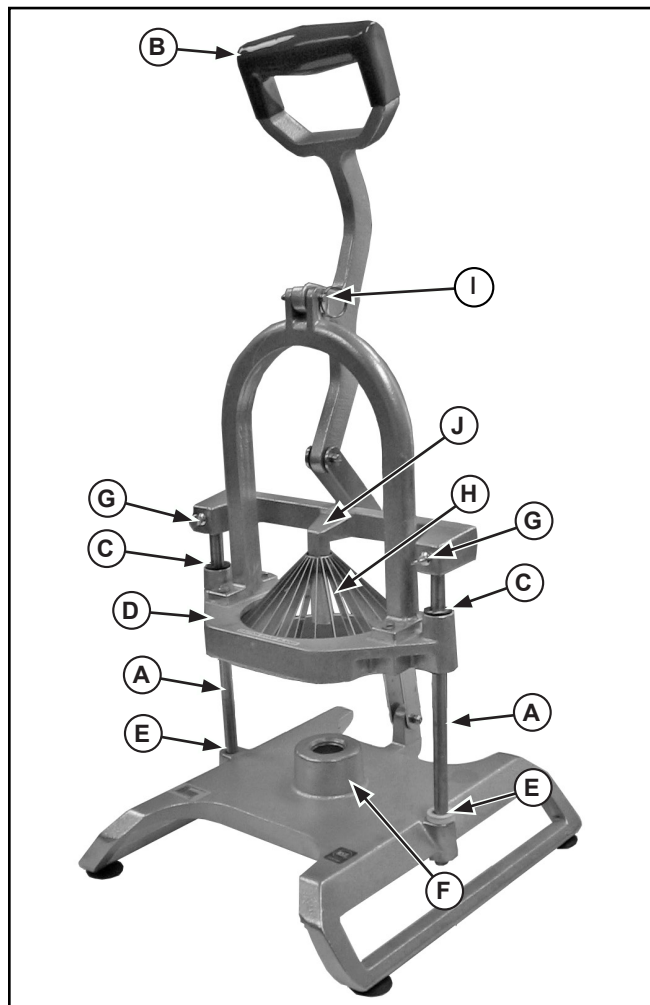

Figure 1. Features and Controls.
2. Before each use, always check for proper blade alignment. Slowly set the pusher head (D) onto the blade assembly. See Figure 1. They should slide together with no obstructions. If there are obstructions, verify they are a matching set. Remove the obstruction.
6. Lift the handle (B) put into the up position so the pusher head remains in the up position and locked position.
1. Set the handle (B) and pusher head assembly (D) in the down position. See Figure 1.
2. Remove and retain the locking pin (I).
3. Move the handle (B) away from the pusher head assembly (D).
4. Loosen the thumb screws (G) and remove the core pusher (J).
5. Slide the pusher head assembly (D) off of the guide rods (A).
6. Remove and retain the screws (T) and blade retainer (P). See Spare Parts Lists and Exploded View.
7. To remove the blade assembly, remove screws (S) and blade retainer (R) from blade holder (P) and lift out.
3. Move the handle (B) away from the pusher head assembly(D).
6. Remove and retain the screws (T). See Spare Parts Lists and Exploded View.
7. Remove and discard old blade assembly (U).
8. Place the new blade assembly (U) into the blade holder (O).
9. Secure the new blade assembly (U) to the blade holder (O) using the blade retainer (P) and the screws (T).
10. Set the blade holder (O) and lift bracket (M) onto the guide rods (J).
11. Set the core pusher (L) onto the guide rods (G). Tighten the thumb screws (D).